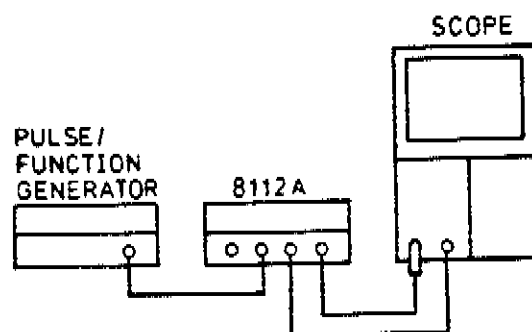

Figure 4-14. Equipment setup for High Level Control performance test.
1. Connect equipment as shown in Fig. 4-14.